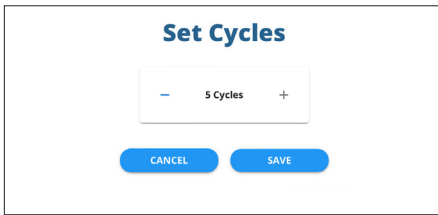

Fig. 60—Use the buttons to set the number of scans to be performed.
2. Press the *Set Cycles* button to set the number of scans to be performed according to the current sequence. A popup displays (Fig. 60). Use the + and – buttons to increment or decrement the number of scans. Then, press the *OK* button to save the changes.